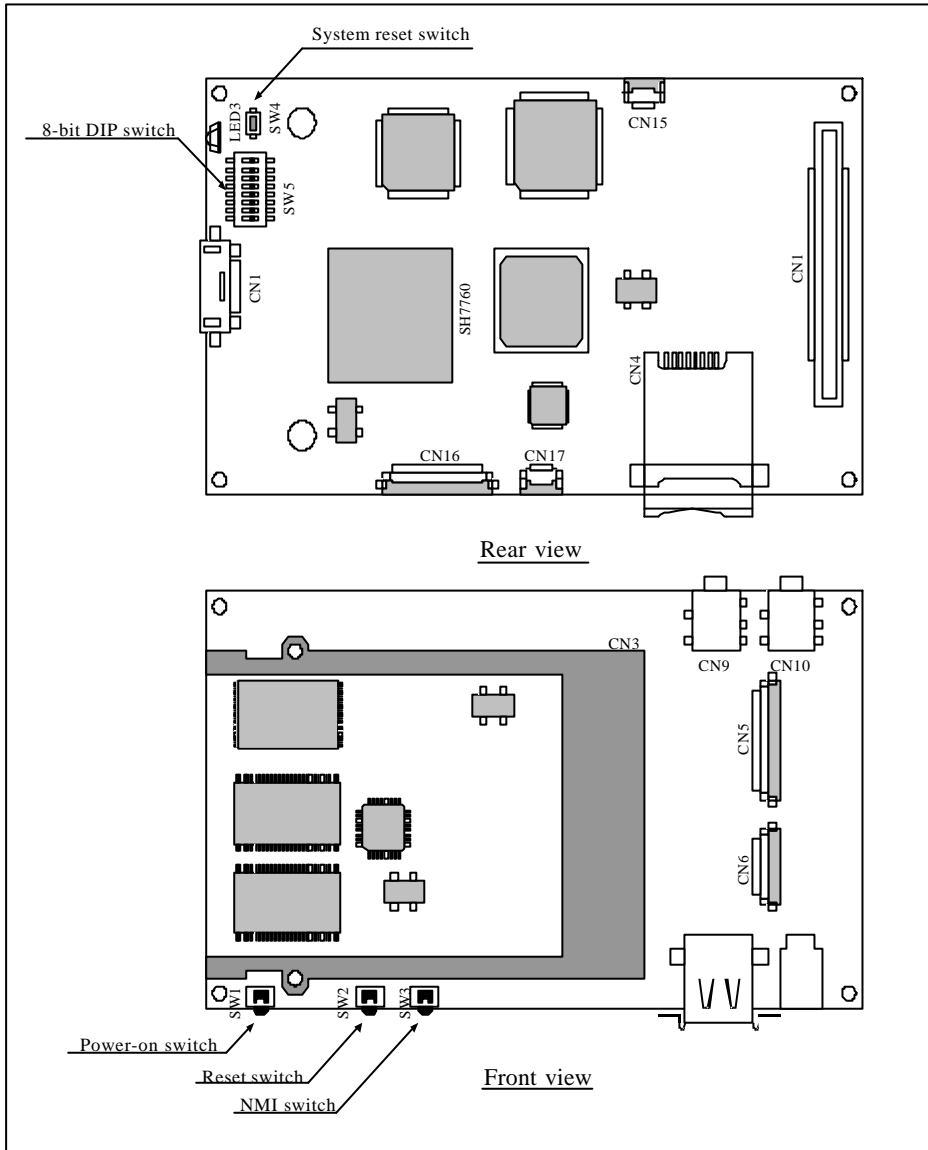

Figure 3.1 CPU Board Switches (SW1 to WS5)
Figure 3.1 shows the locations of switches (SW1 to SW5) on the CPU board. In addition, this section gives a brief description of each switch in (1) to (5).